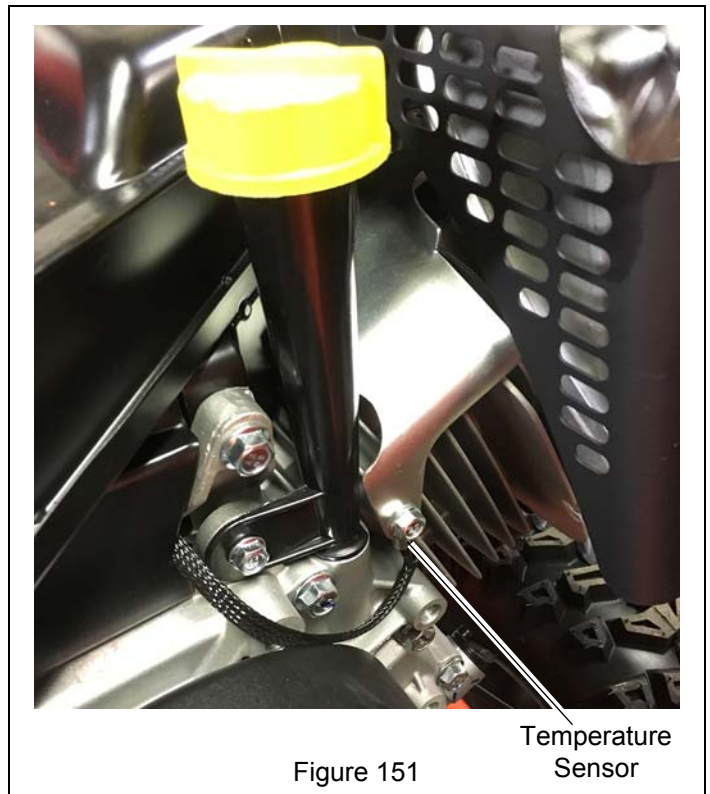

Figure 151
2. Check the temperature sensor wiring from the throttle body to the mounting boss on the side of the cylinder. Make sure connection is secure. See Figure 151.